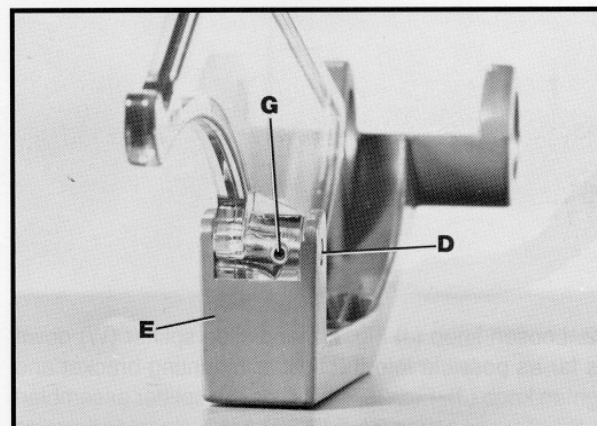

Fig. 28
15. Make sure pin (D) Fig. 28, is flush on both sides of basket arm (E) and tighten set screw (G).